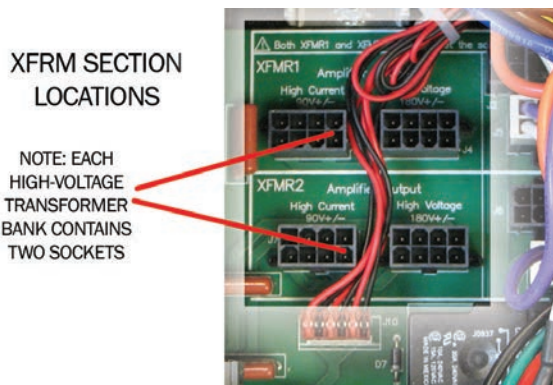

Figure 4.11 – Location of Amplifier High-Voltage Transformer Sockets
1. Locate the two XFMR sections (left of Line Voltage sections) (see **Figure 4.11**).